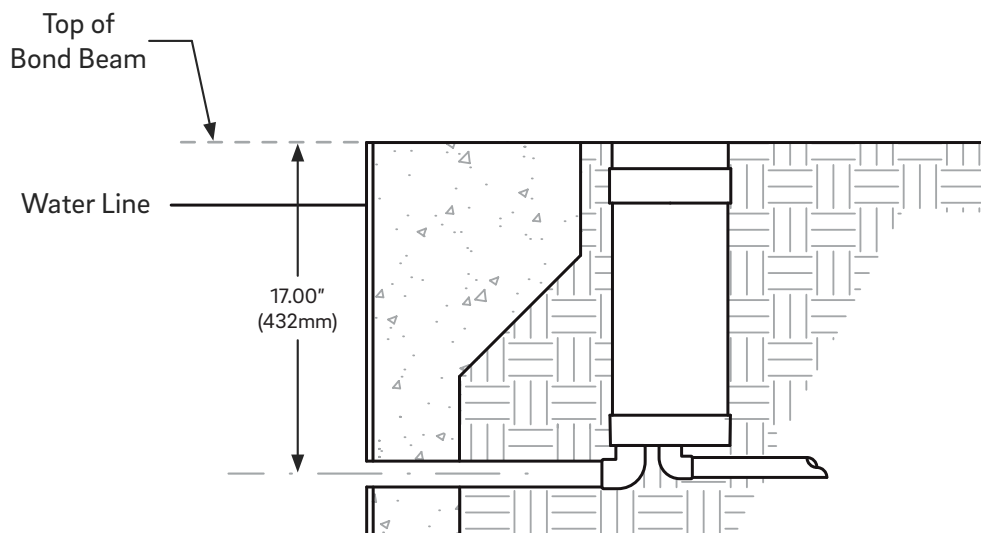

Figure 4
2. When using travertine or other thin deck material, make sure the top of the QuikDekClor canister is flush with the top of the bond beam and as close to the form as possible. This setting will position with the 1" balance line approximately 17" below the top of the form (Figure 4).